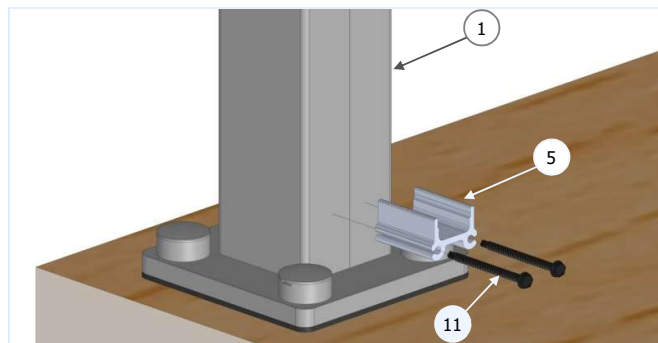

Fig 14B
- Using a 1/8" drill bit (8), pre-drilled pilot holes in the post (1) for the top (800 Series only) and bottom RCBs (5) as indicated by the drill guide marking. Use touch-up paint to coat exposed aluminum inside the drilled holes and protect from corrosion.
- Mount the bottom rail RCB (5) to the post as shown in Fig 14B and fasten using #8 x 2" Hex Washer Tek Screw (11). Do not overtighten.